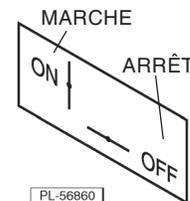

Fig. 5
COMMANDES (FIG. 5) – GRILLOIRS HGB (M)